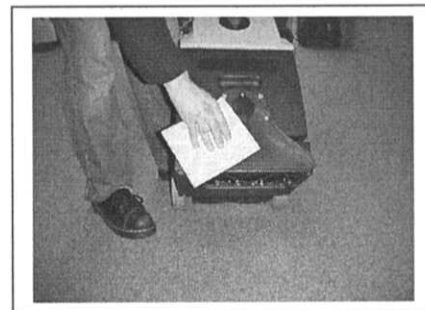

Figure 20
8. Clean machine with All Purpose Cleaner and damp cloth (Figure 20).